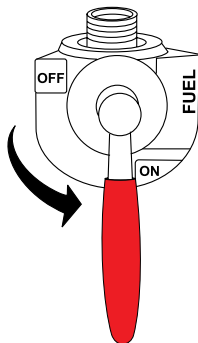

Figure 32. Fuel Tank Valve Lever (ON)
3. Return the fuel tank ON/OFF valve (Figure 32) to the **ON** position.